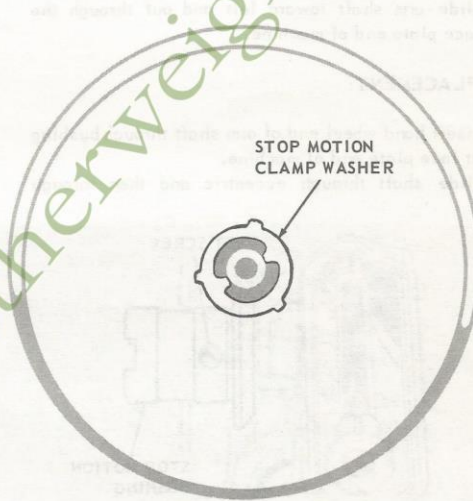

Fig. 47. Removing Clamp Washer
4. Remove stop motion clamp washer, Fig. 47, and slide hand wheel out and off the bushing.